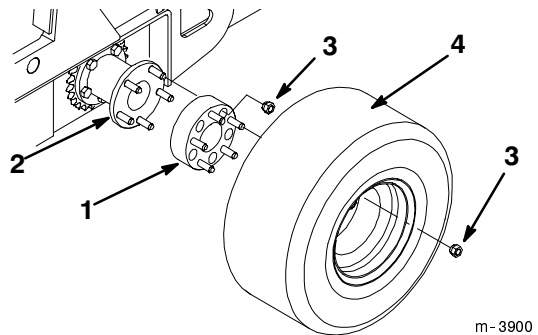

Figure 3
2. Slide the wheel spacers onto the studs on the wheel hub and secure them with lug nuts (Fig. 3). Torque the lug nuts to 55 ft-lbs (75 N·m).
3. Install the wheels on the studs on the wheel spacers and secure them with lug nuts (Fig. 3). Torque the lug nuts to 55 ft-lbs (75 N·m).